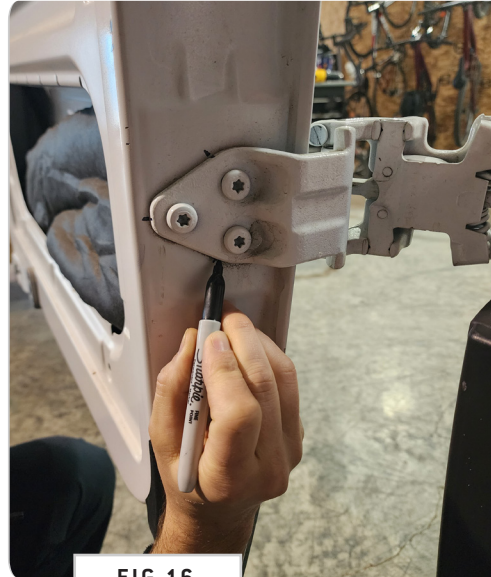

FIG 16
**5.1 Bottom Hinge Alignment Marks:** Begin by marking alignment points at the bottom hinge of the driver-side door (FIG 16).